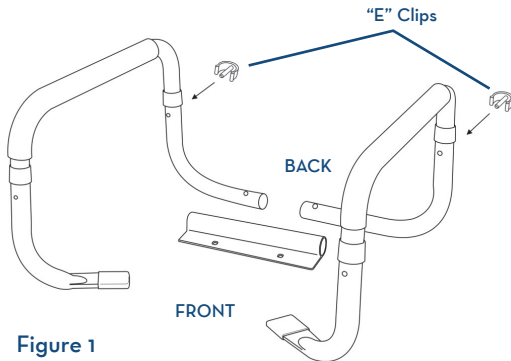

Figure 1
2. Assemble frame by inserting armrest section into two frame support sections by depressing brass push pins on armrest and inserting into receptacles. Note that front of armrest should correspond to section with rubber tips. When in place, push buttons with snap into place. Insert "E" clip into back of frame to secure armrest to frame. Repeat for second armrest. (Figure 1)